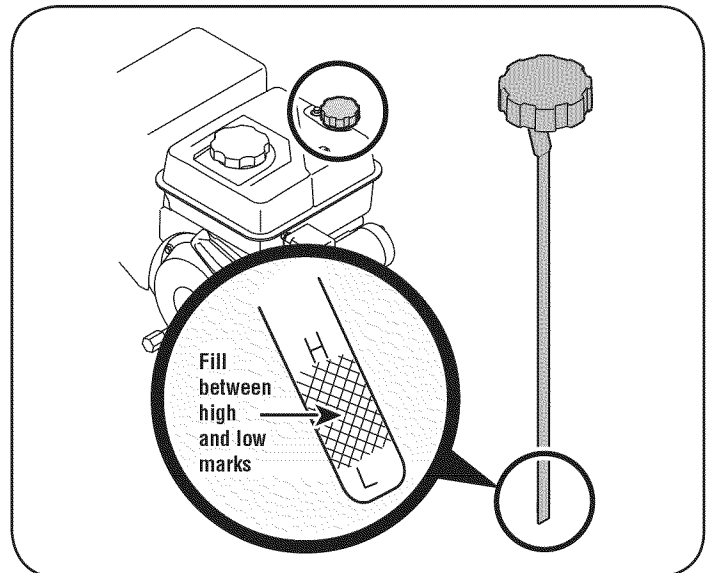

Figure 7
1. Remove the oil filler cap/dipstick and wipe the dipstick clean. See Fig. 7.
3. Remove the oil filler cap/dipstick. If the level is low, slowly add oil until oil level registers between high (H) and low (L), Fig. 7. Refer to the Engine Maintenance section for correct oil viscosity and engine oil capacity.